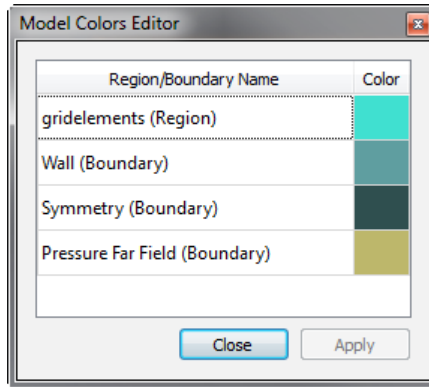

Figure 20.68: Models color editor
- Click on the *Model Colors Editor* button  (see Figure 20.68).